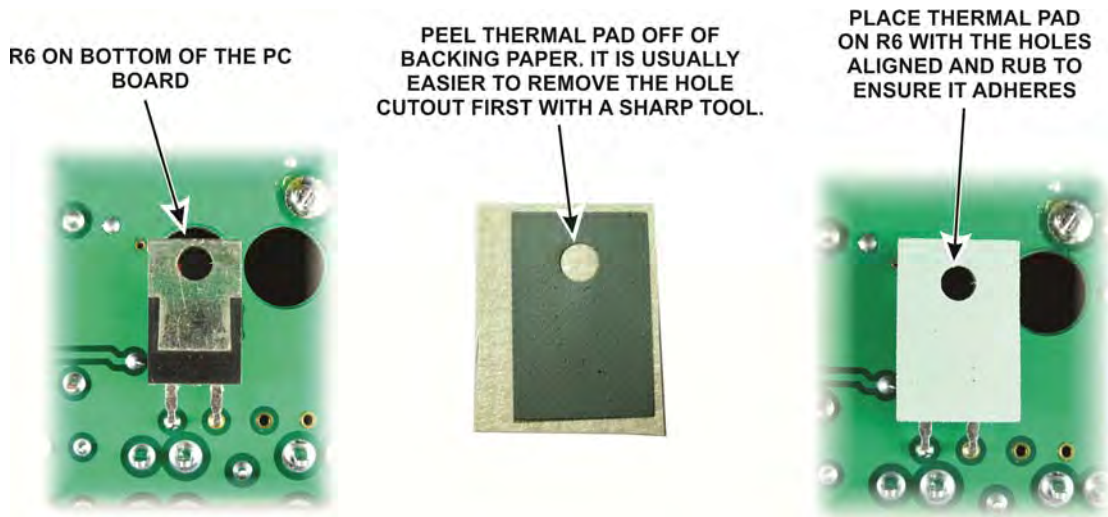

Figure 15. Placing Thermal Pad on R6.
□ Place the circuit board component side down on your work table and attach the thermal pad to resistor R6 as shown in Figure 15.